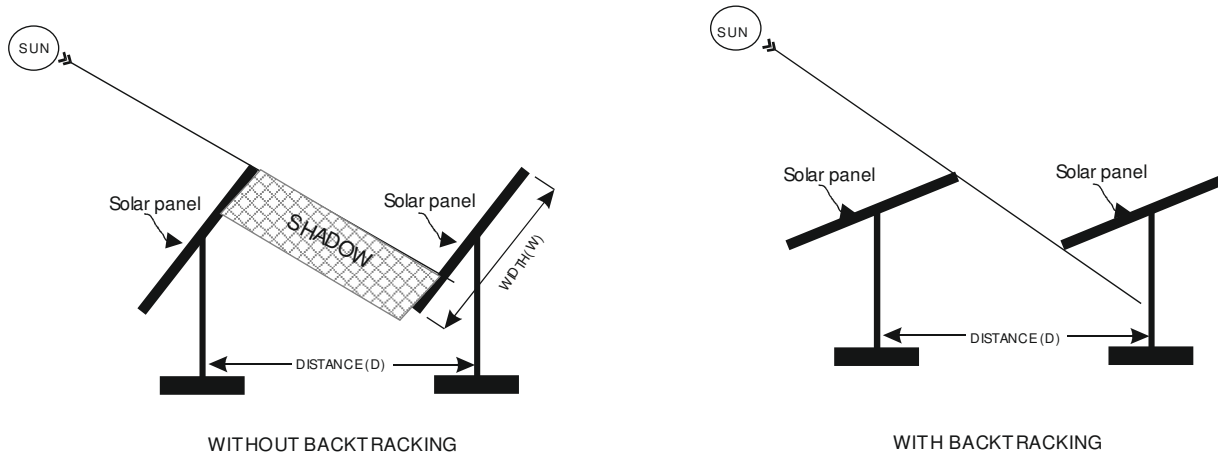

FIG.2
6. **Panel Width:** This parameter should bear the width of the panel(W) as shown in figure2. This parameter determines the backtracking ratio of the solar array along with the distance between panels (D) and accordingly the target angle of the panel is calculated. The settable range is between 0.1meters and 99.9meters
7. **Distance:** This parameter should bear the centre to centre distance(D) between the panel arrays as shown in figure2. This parameter determines the backtracking ratio of the solar array along with the panel width (W) and accordingly the target angle of the panel is calculated. The settable range is between 0.1meters and 99.9meters